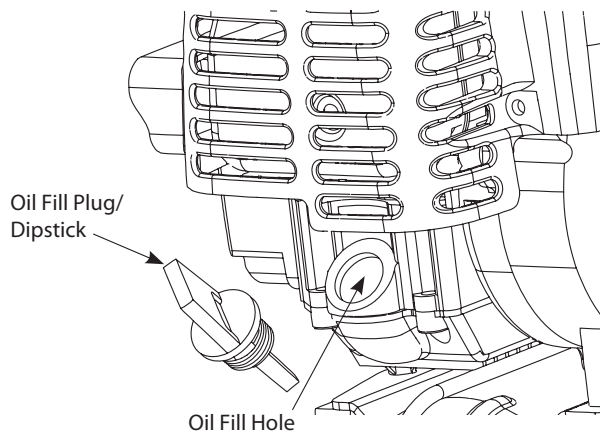

Fig. 17
6. If the level is low, add a small amount of oil to the oil fill hole (Fig.17) and recheck. Repeat this procedure until the oil level reaches the full mark of the dipstick.
Check the level with the dipstick. If the level is low, add a small amount of oil and recheck. Do not overfill (Fig. 17).